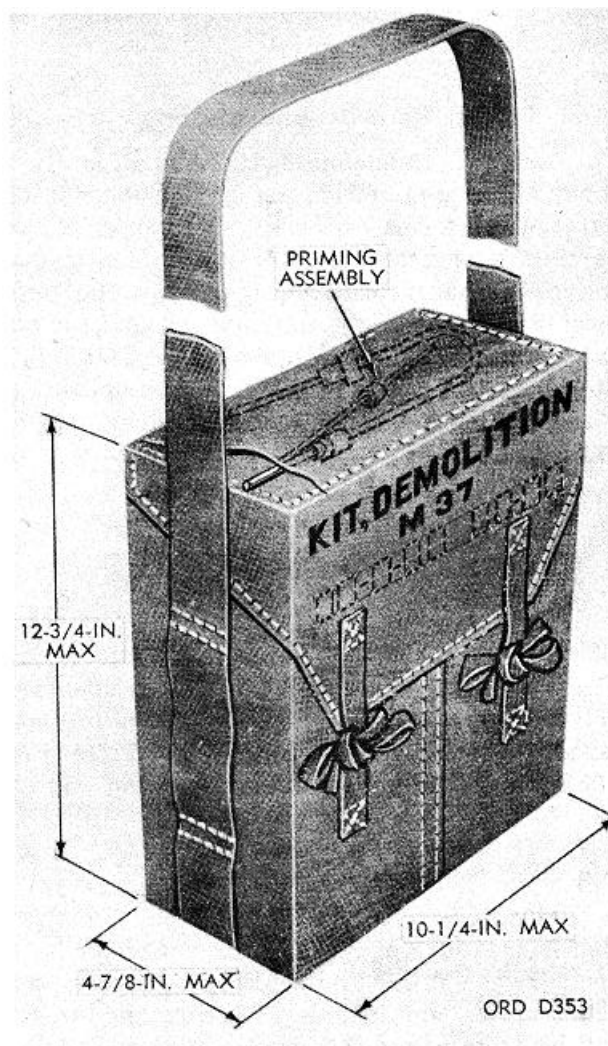

Figure 1-1. Demolition charge assembly M37.
a. Description. This demolition charge assembly (fig. 1-1) consists of eight Block Demolition Charges M5A1, eight block demolition charge hook assemblies, and two Demolition Priming Assemblies M15. Block Demolition Charge M5A1, which is composed of Composition C4, is described in TM 9-1375-200. Priming Assembly M15 (fig. 1-2) consists of approximately 5 feet of detonating cord, to each end of which is attached a Priming Adapter M4A1 and a booster. The priming assembly also includes two detonating cord clips. The adapter is threaded to fit the conventional size cap well of block demolition charges and light antitank mines. The booster, which is about 1/4 inch in diameter and 2 inches in length, contains a charge of 13.5 grains of RDX. Boosters are crimped on to each end of the 5-foot detonating cord, and cemented in place. Clips, in place on the cord about 20 inches from either end of the assembly, are for forming junctions on main lines of detonating cord in a demolition system. The main lines, with their initiators, and Priming Assembly M15 comprise the firing circuit for one or more Block Demolition Charges M5A1.